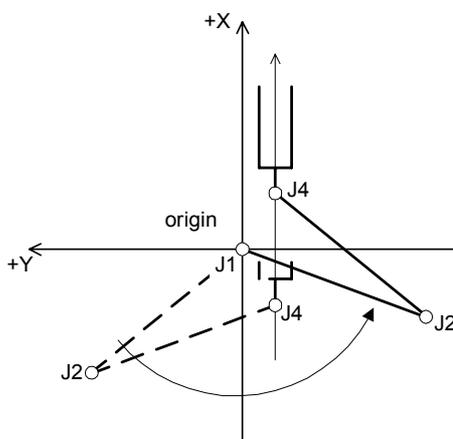
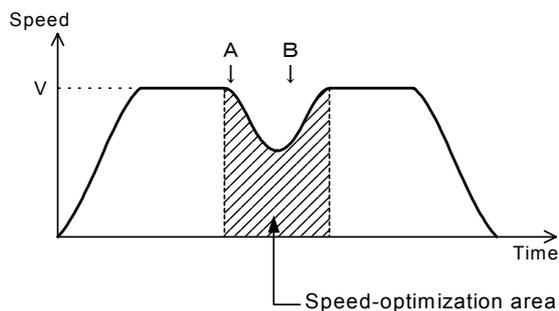

Fig.4-19:When passing through near the origin point by linear interpolation
Fig.4-20: The situation of the speed at speed-optimization.
- When performing a XYZ interpolation operation while maintaining the speed of the control point, the J1 axis must rotate at a faster speed when passing through a point near the origin point O (one of the robot's singular points) as shown in Fig. 4-19, causing an excessive speed error depending on the specified speed. If SPDOPT ON is executed, the speed is adjusted automatically in order to prevent an excessive speed error from occurring. For example, while in operation at the command speed V, it approaches the origin point O, and the speed will be exceeded if it continues to operate at the current speed, the speed is decreased automatically as shown by A in Fig. 4-20 in order to prevent the speed to be exceeded. Then, when it has passed near the origin point O and it becomes possible to increase the speed, it starts accelerating to reach command speed V as shown by B in Fig. 4-20.